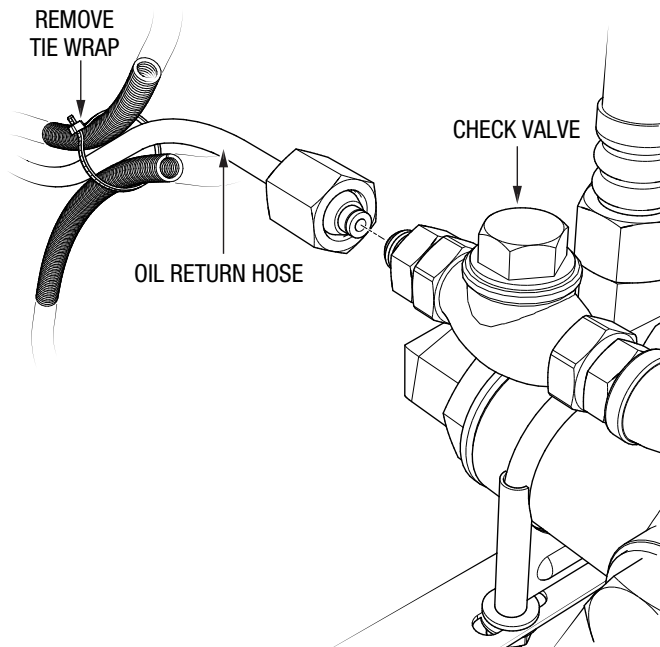

Figure 20. Access Oil Return Hose
1. Cut and discard the tie wrap securing the oil return hose to the other hoses, and pull the oil return hose out of its harness (Figure 20).